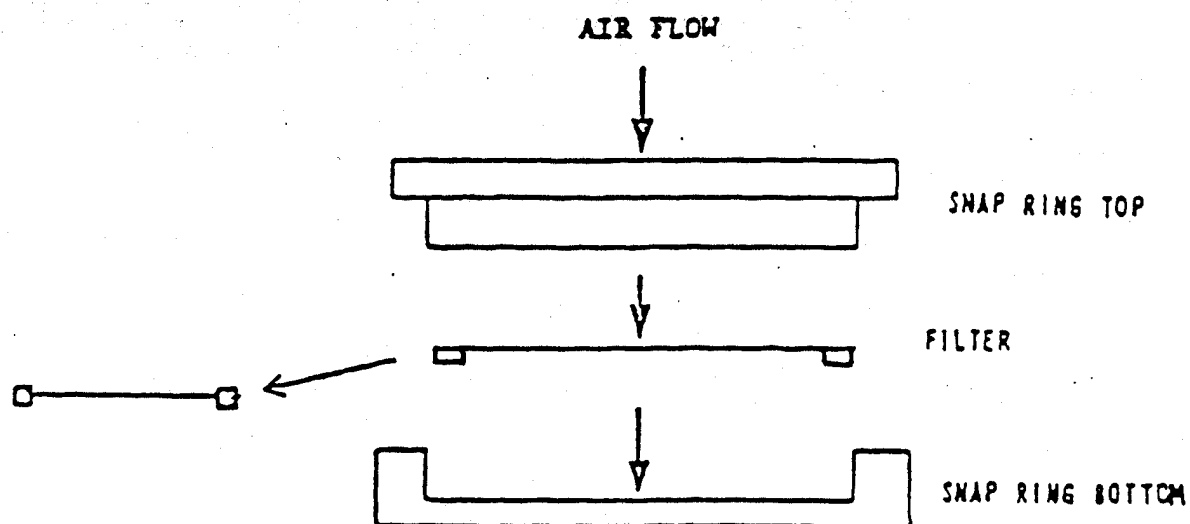

Figure M.1.1.0
1. Filter Installation - The preweighed filters are sent to the station operators mounted in plastic filter holders (cassettes) and enclosed in plastic cases. The coarse filter cassette is yellow and the fine filter cassette is white. They are sent in pairs with identification numbers and labeled C for coarse and F for fine on the cases. The collection side of the filter is inset deeper or further away from the flat surfaces of the plastic filter holder, and the non-collection side of the filter is inset less and/or is closer to the flat surfaces of the plastic filter holder. The collection side with the filter surface inset the most, should face upward when inserted into the sampler (see Figure M.1.1.0).